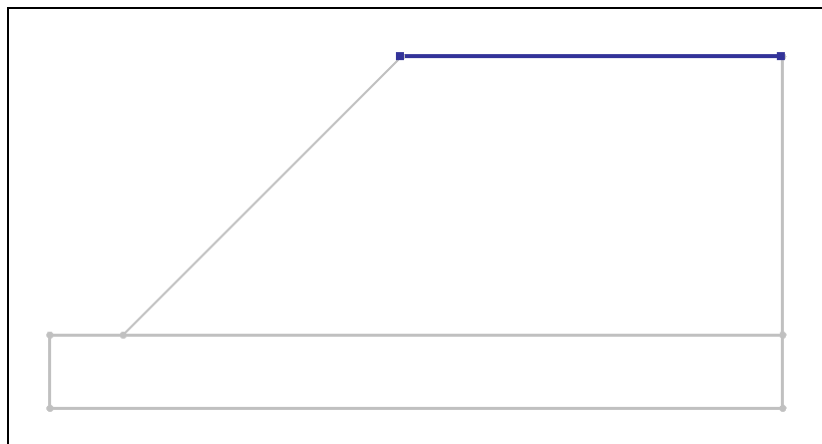

Figure 2 Selecting the distributed load arc
10. Click on the two points representing the top of the sand embankment to connect them with an arc. This will create an arc representing a distributed load as shown below in Figure 2.